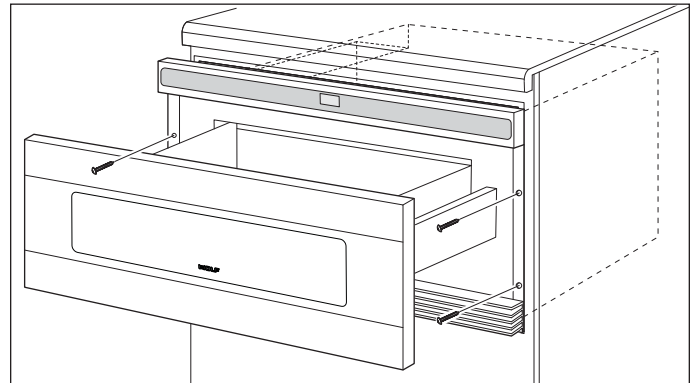

Figure 4-2. Installation Mounting Screw Removal
1. Open the drawer and extract the four mounting screws holding the unit on to the wall or cabinet opening. (See Figure 4-2).